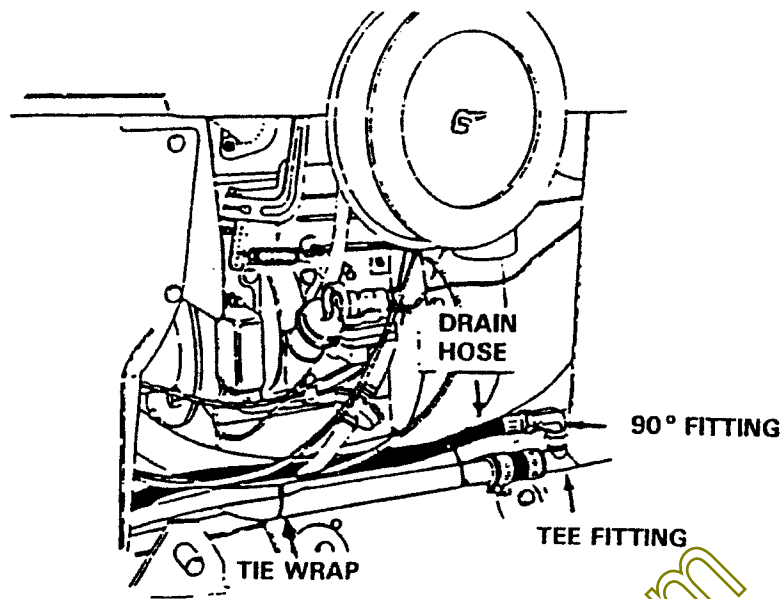

FIGURE 5 Model 220 Shown
4. Install tee fitting, both new 4" long hoses and (4) hose clamps as shown in Figure 5.
4. Install 90° fitting on tee fitting and point it rearward as shown in figure 5.
5. Route drain hose as shown in Figures 5 and 6. Flared fitting on hose toward tee fitting.
- e. Attach flared fitting end of hose to 90° fitting as shown in figure 5.